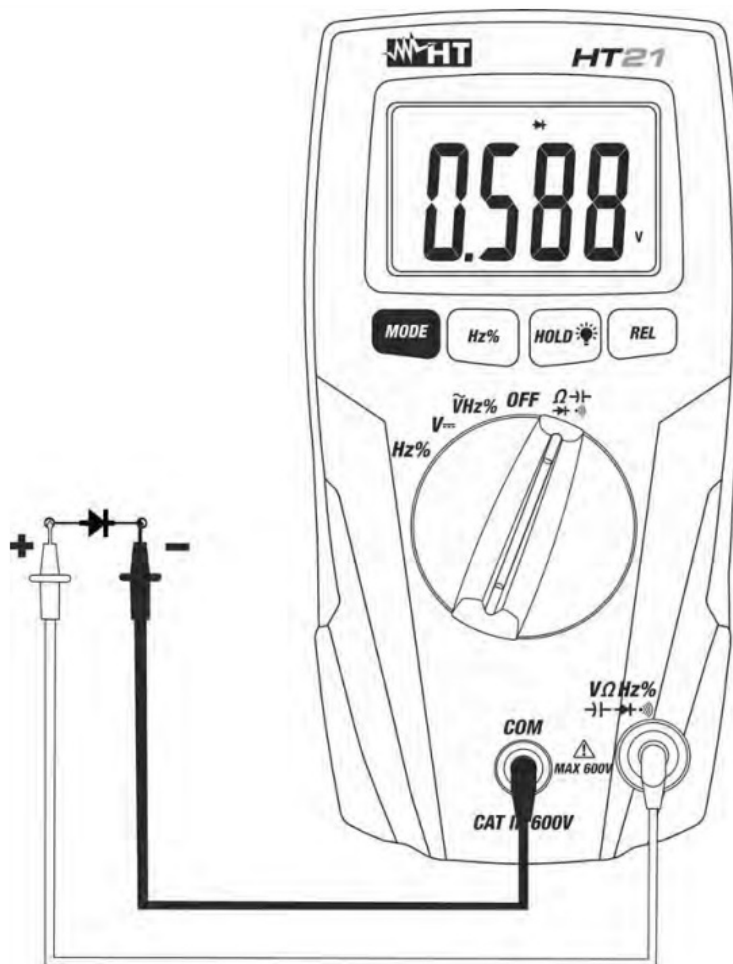

Fig. 5: Using the instrument for the Diode test
4. Connect the test leads to the diode under test observing the proper polarities indicated in Fig.5. The threshold voltage value expressed in mV under this situation is displayed